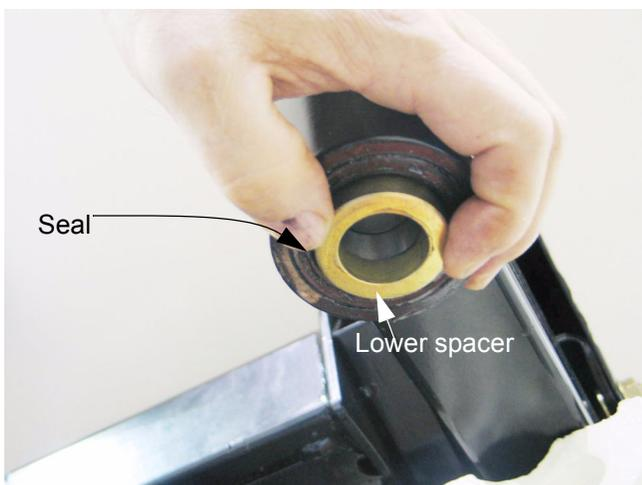

Figure 27.19
- 27.19. Lubricate the lip of the seal with grease or oil, and position the lower spacer in the seal. If the spacer has a wear ring on the sealing surface, it may be reversed, or swapped with the upper spacer. See Figure 27.19.